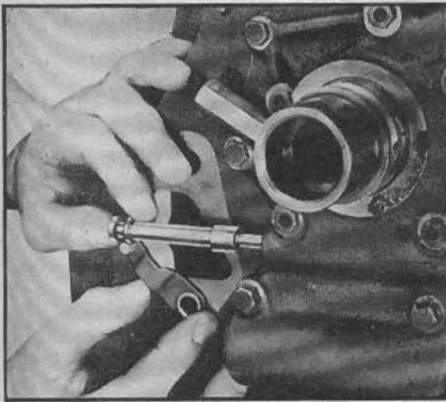

Fig. 68 Indexing manual valve with lever. 1950-52
1. Install manual valve in valve body and manual valve inner lever in turbine housing. Index lever pin with pickup slot in valve, Fig. 68.